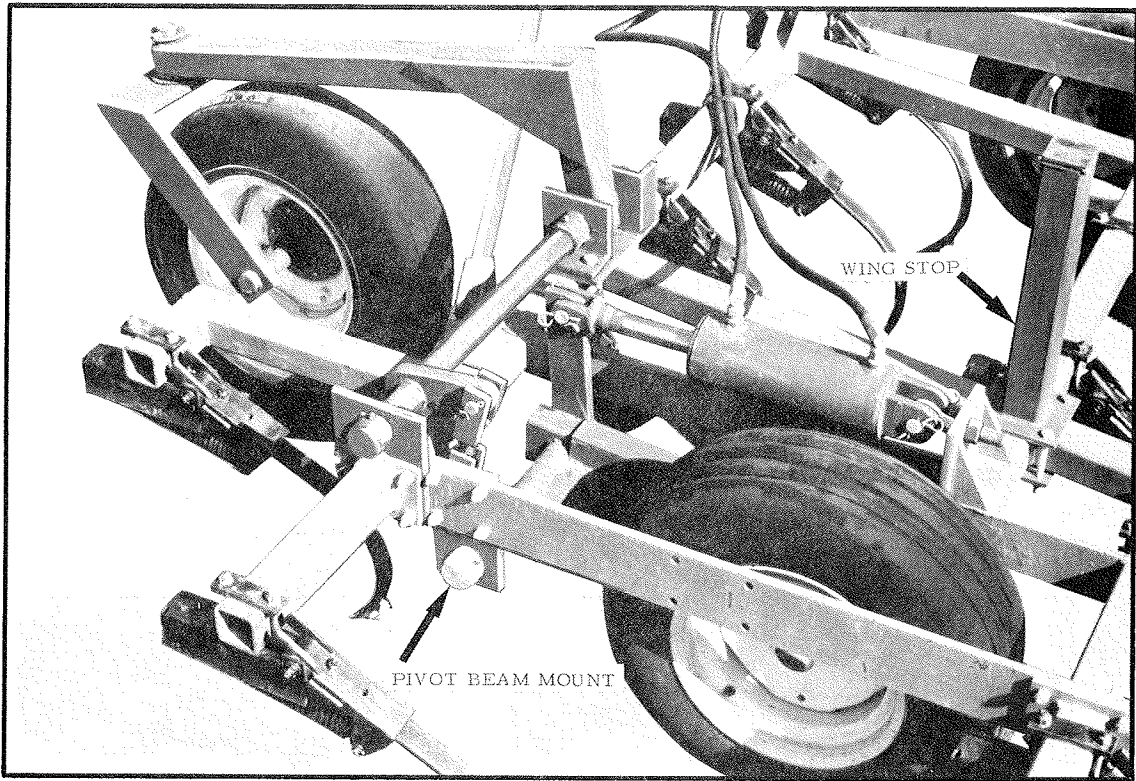

Figure 9
14. Attach wing stops, using 3/8" x 6" x 6" plates and 1/2" x 5" capscrews. Figure 9 shows location on wide wings. For machines with narrow wings, stops are mounted to frame tube directly behind wing wheel.